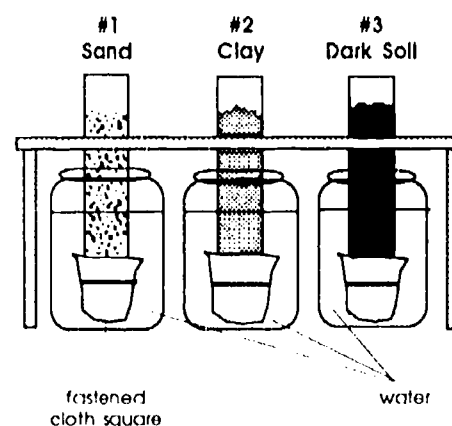

Figure 1. Position a jar under each cylinder
5. Place each cylinder (cloth end down) in a stand. Position a wide-mouth glass jar under each cylinder so that the cloth end fits into the jar (see Figure 1).